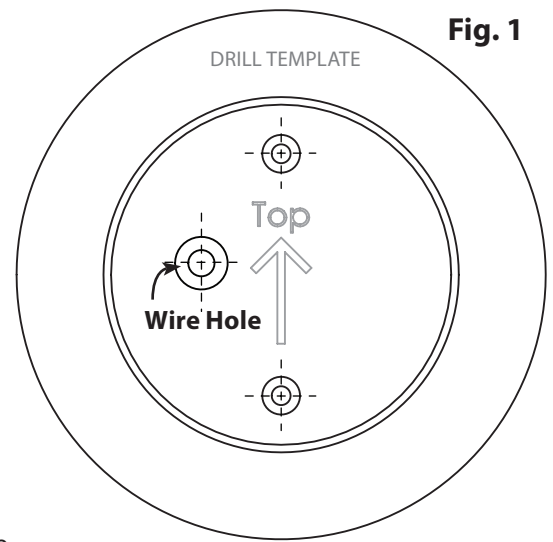

Fig. 1
- c. Mark the location of the wire hole and the mounting screw holes using the template provided (**Fig. 1**)